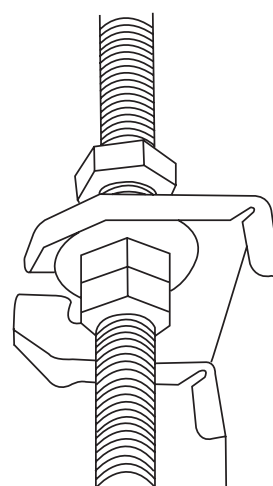

Fig. 4.11
8. Mount the indoor unit with at least two people to lift and secure it. Insert suspension bolts into the unit's hanging holes. Fasten them using the washers and nuts provided. (See Fig. 4.11).